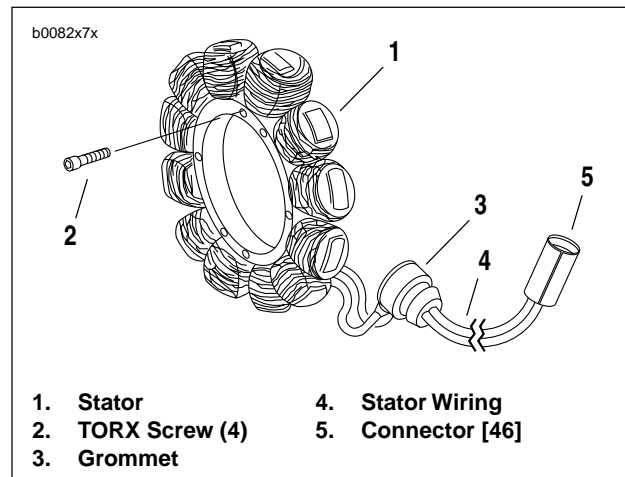

Figure 7-28. Stator Assembly
1. See Figure 7-28. Disconnect stator wiring (4) from voltage regulator wiring at connector (5) [46] near the oil pump.
3. Withdraw stator wiring (4) from behind the gearcase cover.
4. Remove and discard the four TORX screws (2) which secure stator (1) to left crankcase half.
1. See Figure 7-28. Feed stator wiring (4) with attached grommet (3) into open grommet hole in left crankcase half.